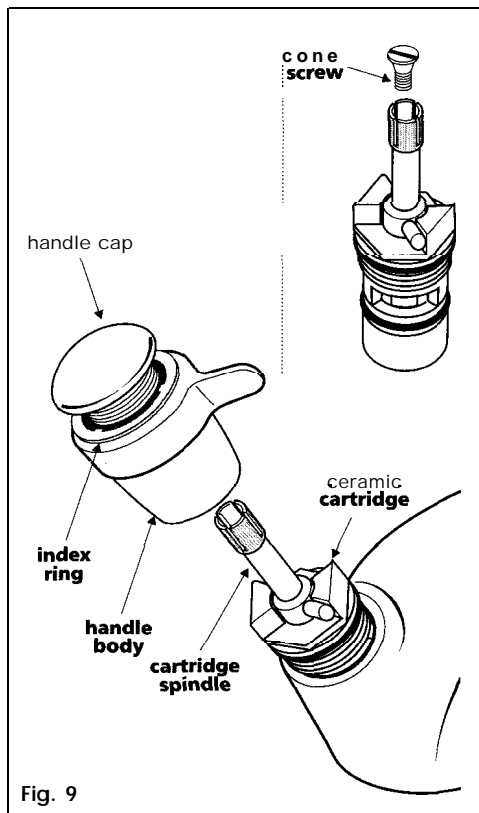

Fig. 9
- When using the three piece and easy function metal handle options, the handle fits direct onto the cartridge spindle, (see Fig. 9).